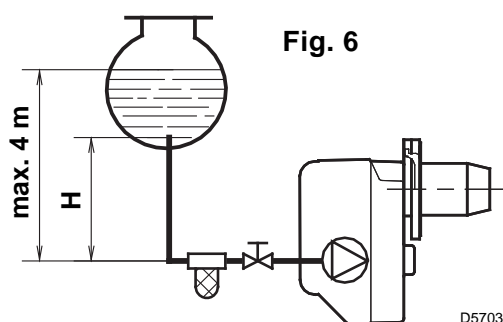
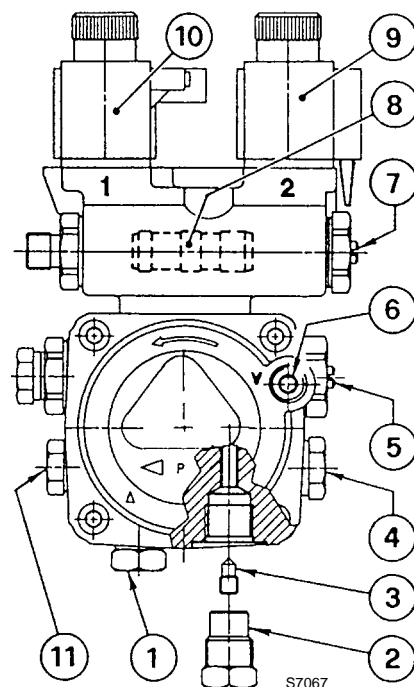

Fig. 6
Fig. 7
- The pump is designed to allow working with two pipes. In order to obtain one pipe working it is necessary to unscrew the return plug (2), remove the by-pass screw (3) and then screw again the plug (2), (see fig. 7).
On the system in fig. 6 it is sufficient to loosen the suction gauge connection (6, fig. 7) and wait until oil flows out.